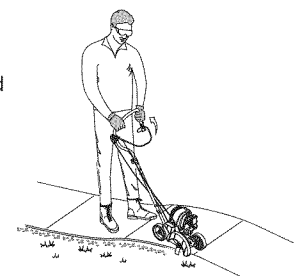
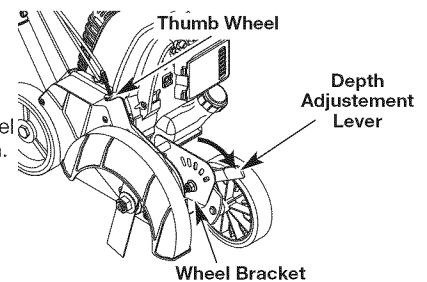

Fig. 13
Fig. 14
Before operating the unit, stand in the operating position (Fig. 13). Check for the following:
- The edger wheel adjusted for proper cut depth as shown in Figure 14 and edger positioned as shown in Figure 13.
1. Grasp the depth adjustment lever located beside the front wheel (Fig 14).
2. To raise the cutting blade, move the lever toward the front of the wheel bracket (Fig. 14). Lowering the wheel decreases the cutting depth.
1. Locate small thumb wheel on top of the belt housing (Fig. 14).